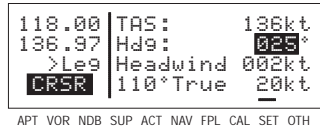

Figure 4-73
3. Use the right outer knob to move the cursor to the **Hdg:** field, and then use the right inner knob to enter the aircraft's heading (figure 4-73). The headwind or tailwind and the wind direction and speed are now displayed. The wind direction is relative to true North.